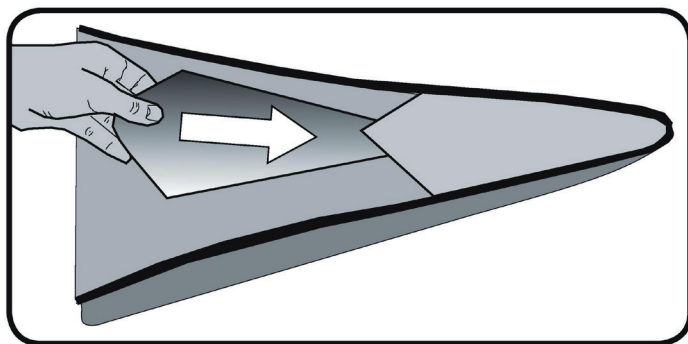

Figure 4. Plastic Bow and Stern Insert
9. Finally, insert Plastic Bow and Stern forms into pockets at bow and stern. See Figure 4.